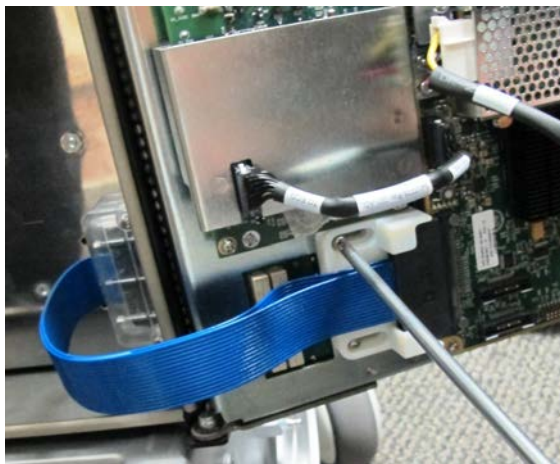

Figure 8-107 Releasing the Retaining Bracket on the CFE
- Loosen the two screws securing the white cable holder bracket (plastic guide) - Figure 8-107.